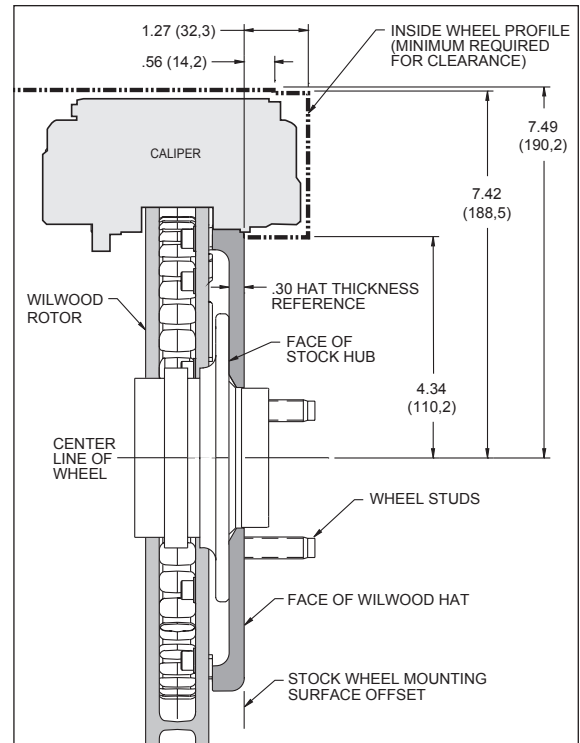

Figure 2. Wheel Clearance Diagram
This kit maintains adequate clearance for use with the standard production and Z06 option original equipment wheels from model years 2000-2004. For ALL other wheels, consult the wheel clearance diagram (Figure 2, page 3) to determine compatibility. Parts that have been installed may not be returned or exchanged.
- Verify your wheel clearance using Figure 2.